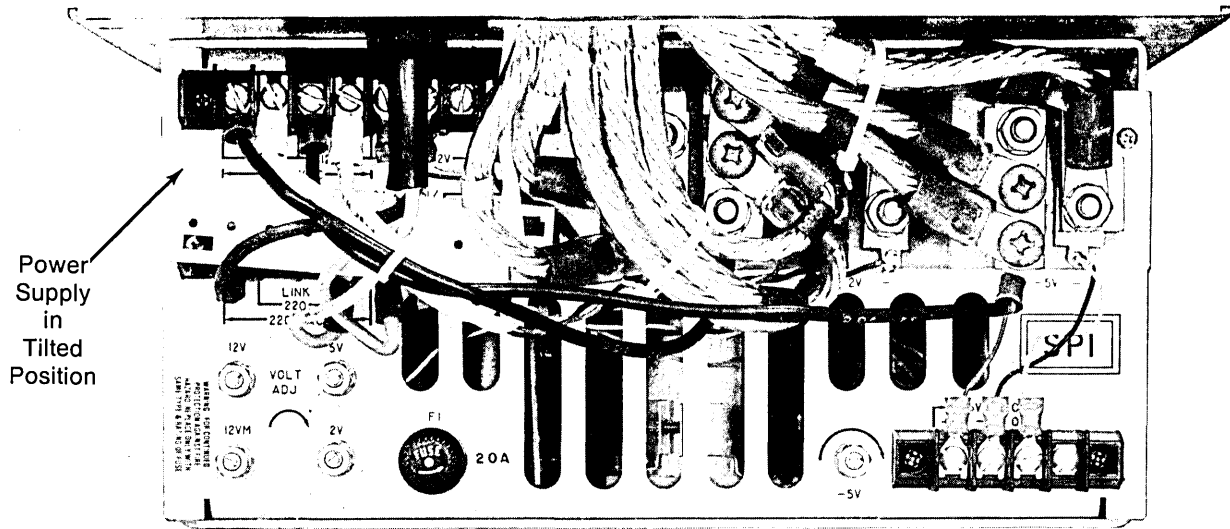

Figure 5-3. Voltage Adjustment Controls
6. Loosen lock nut on 5V control (figure 5-3).